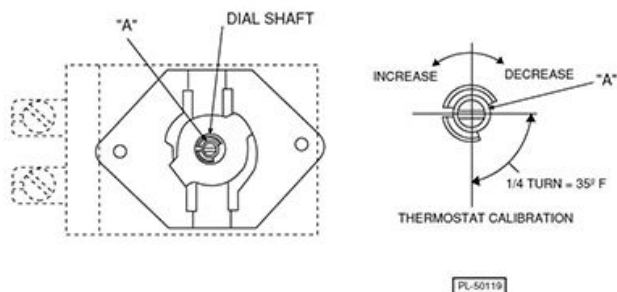

Fig. 124
4. Pull dial straight off dial shaft without turning (Fig. 124).
5. Turn screw "A" clockwise to decrease temperature and counterclockwise to increase temperature (Fig. 124); 1/4 turn of Screw "A" represents a temperature shift of 35°F.